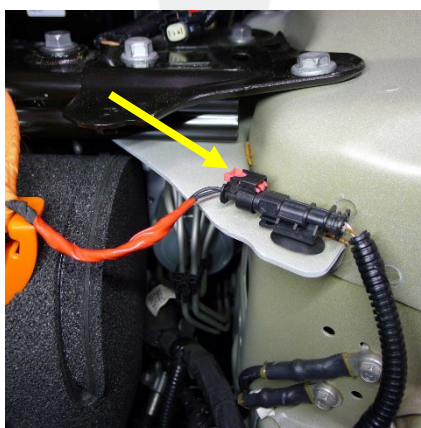

Figure 9
11. Pull the red tab out, and then pull the red tab again to disconnect the A/C compressor HVIL connector from the electrical harness at the LH shock tower (Figure 9).